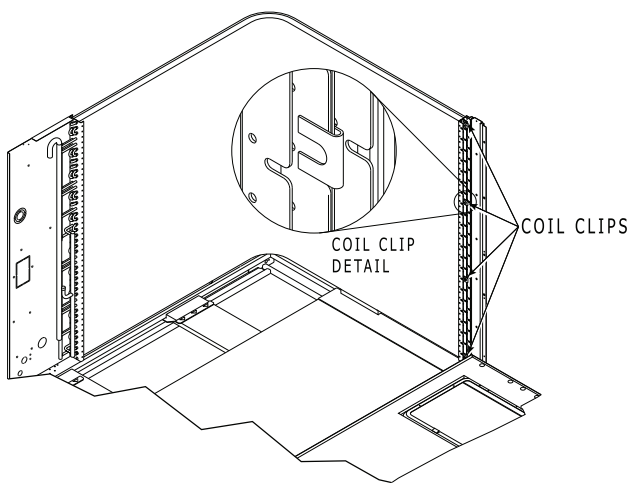

Fig. 18 — Condenser Coil Clips
5. Remove the screws from both sides of the 4 coil retaining clips on the hairpin end of the coil tube sheets. See Fig. 18.